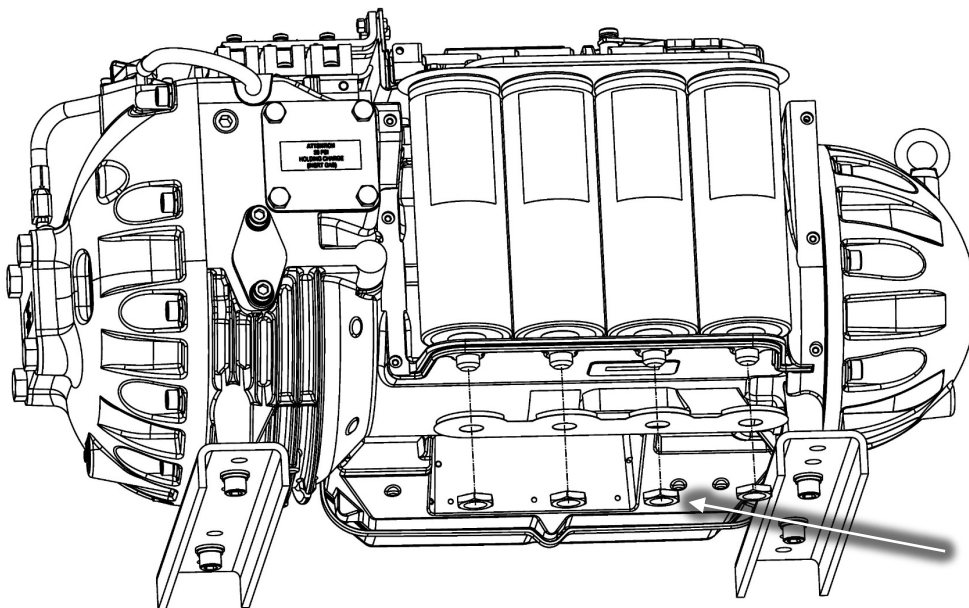

Figure 12 – Capacitor Nut Removal
22. Remove the nylon nuts at the base of the DC capacitor assembly under the main compressor housing. Refer to Figure 12 (Capacitor Nut Removal).